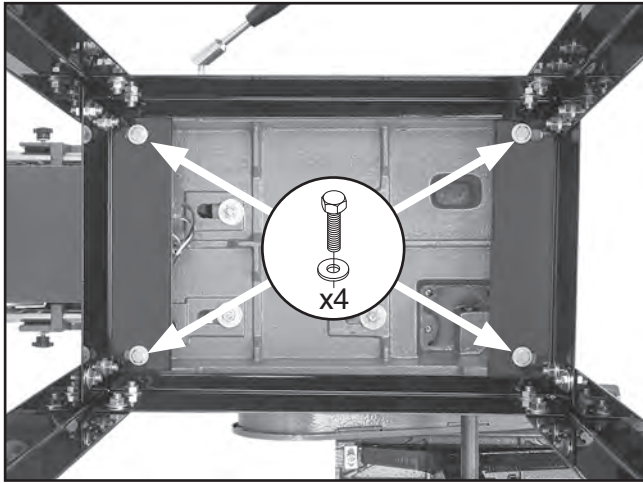

Figure 23. G1014Z sander fastened to stand (view from underneath stand).
- Secure the sanding unit to the stand or cabinet with the (4) $\frac{5}{16}$ "-18 hex bolts and $\frac{5}{16}$ " flat washers, as shown in **Figures 23 & 24**.